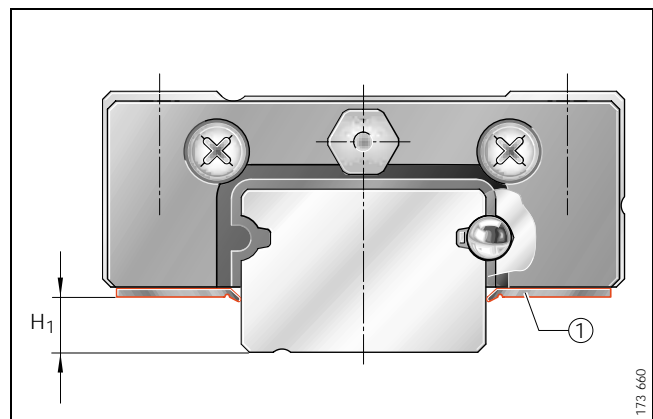

Figure 10 · Dimension  $H_1$
For applications in a contaminated environment, the carriages can be fitted with sealing strips ①. In this case, the reduced dimension  $H_1$  must be taken into consideration (Figure 10 and Table 7).